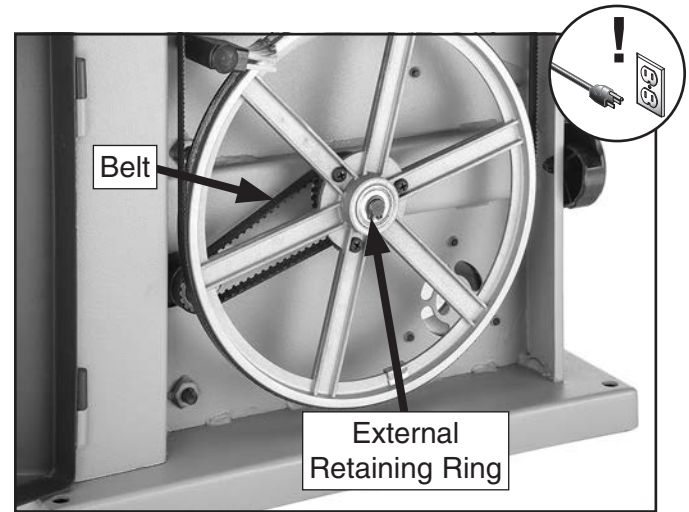

Figure 53. Belt change components inside lower wheel cover.
6. Remove external retaining ring from lower wheel shaft (see **Figure 53**) and remove lower wheel.